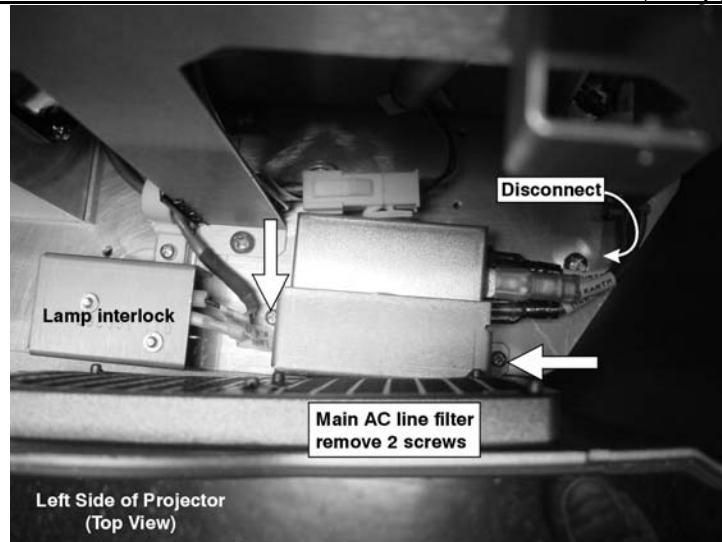

Figure 64. AC Line Filter
2. Disconnect the three (3) main connections with needle nose pliers.
3. Remove the two (2) screws securing the line filter to the bottom chassis. (Figure 64.)